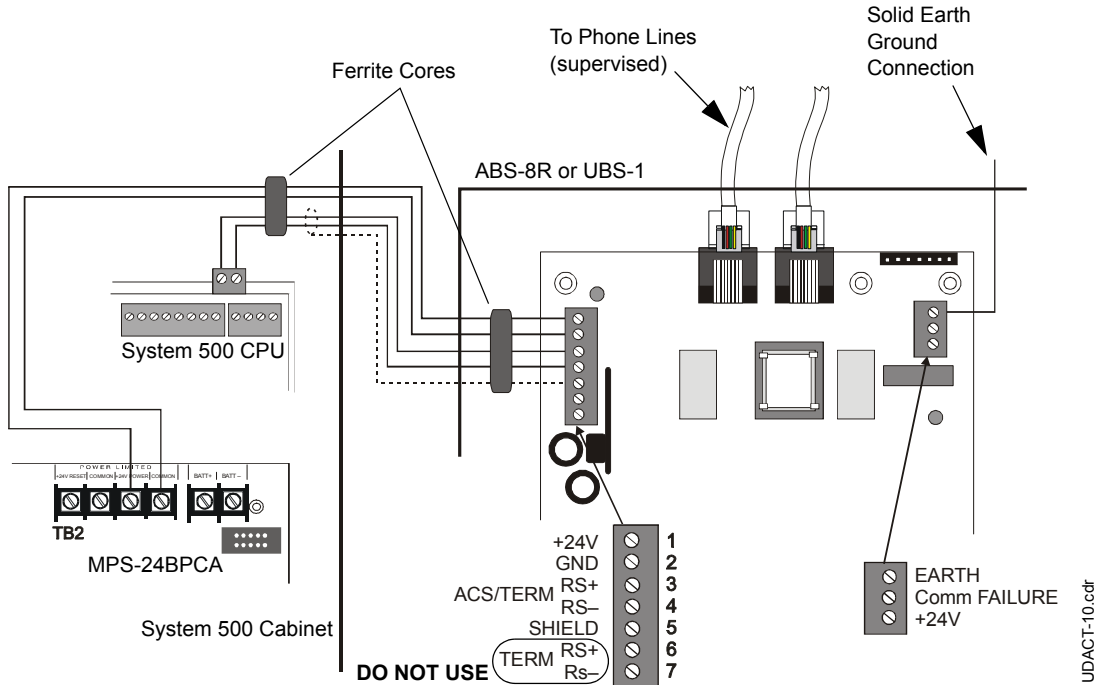

Figure 18 UDACT and System 500
Refer to Figure 18 on page 76.
2. Recommended wire is 12 AWG (3.25mm²) to 18 AWG (0.75mm²) twisted pair, shielded cable. Connect only one end of shield: a) shield may be connected to cabinet (earth ground) at fire alarm panel, or b) shield may be connected to TB1 Terminal 5 (Shield) at UDACT as shown in Figure 18.